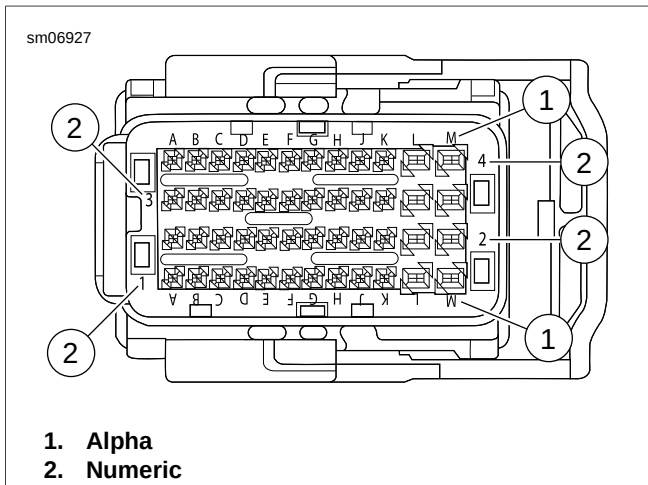

Figure A-41. Alpha - Numeric Coordinates
6. See Figure A-41. Locate the wire lead cavity by the alphanumeric coordinates.